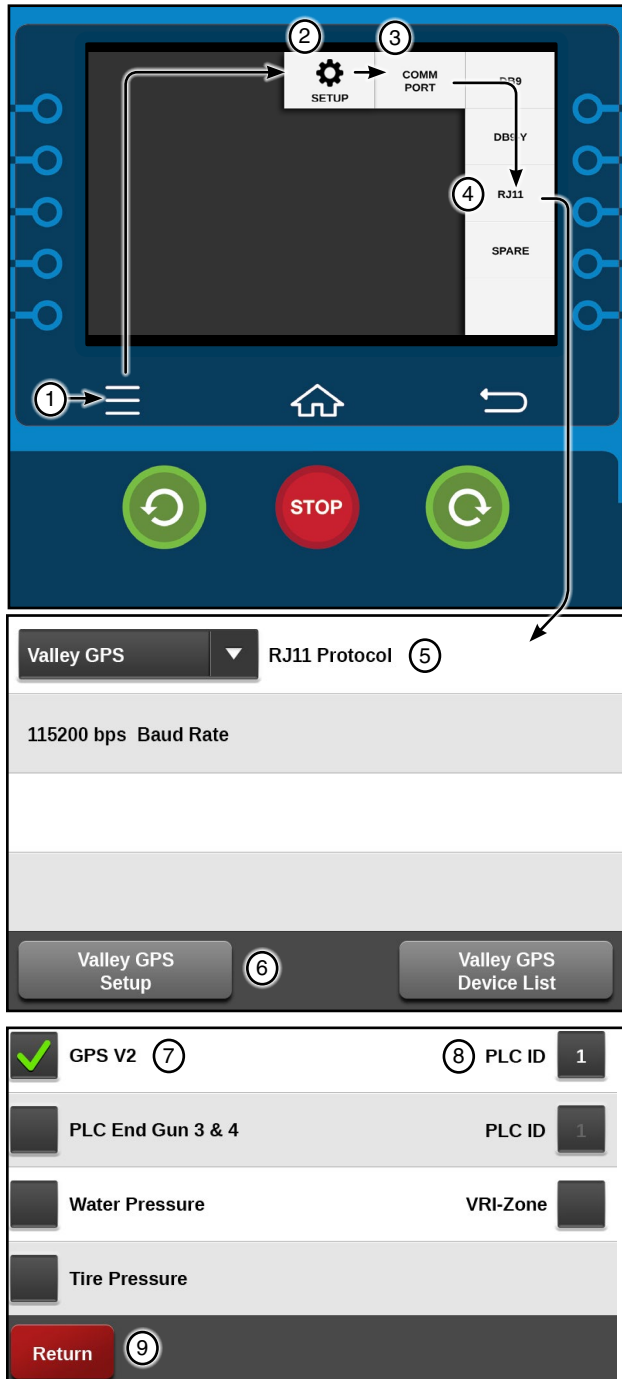

Figure 42-1 1. Menu 2. Setup 3. Comm Port 4. RJ11 5. RJ11 Protocol 6. PLC Setup 7. GPS V2 8. PLC ID 9. Return
- (iv) Check the **GPS V2** checkbox to enable position. See Figure 42-1.
- (vi) Push the **Return** button. See Figure 42-1.